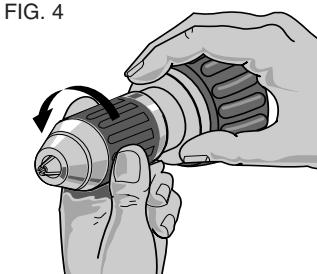

FIG. 4
Keyless Single Sleeve Chuck (Fig. 4)
2. Grasp the black sleeve of the chuck with one hand and use the other hand to secure the tool as shown in Figure 4. Rotate the sleeve counterclockwise far enough to accept the desired accessory.